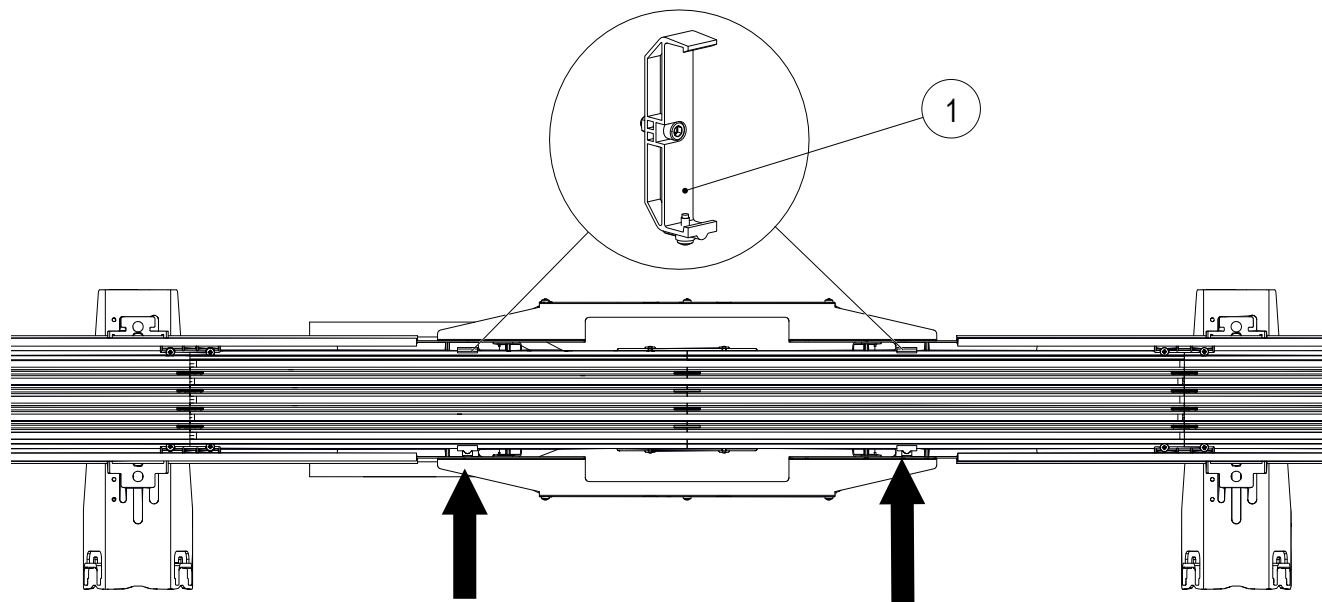

Fig. 84: Position of anchor point
- Install the second anchor point (1) in the same way (see Fig. 84).